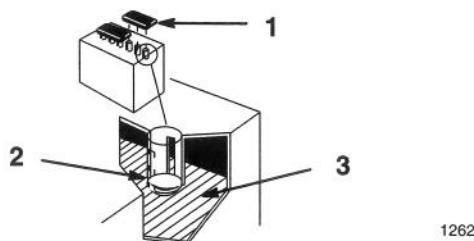

Figure 35
2. Open covers to see into the cells. The electrolyte must be up to the lower part of the tube (Fig. 35). Do not allow the electrolyte to get below the plates. (Fig. 35).
2. Lift off the filler caps (Fig. 35).
3. Slowly pour distilled water into each battery cell until the level is up to the lower part of the tube (Fig. 35).